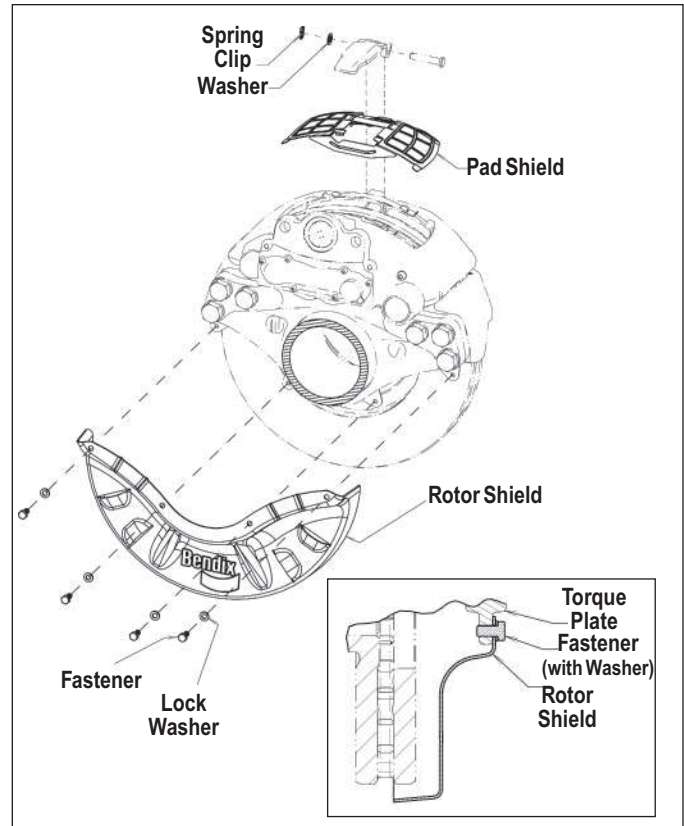

Figure 32 – Trailer Axle Exploded View with Inset Showing Rotor Shield Installation
5.1.4 Trailer Axle Rotor Shields (See Figure 32). Position the rotor shield with *the torque plate between the shield and the rotor*. With one (supplied) lock washer in place on each cap screw, pass the screws through the shield before mounting onto the threaded torque plate holes. Torque the cap screws to 24 ft-lbs (288 in-lbs).